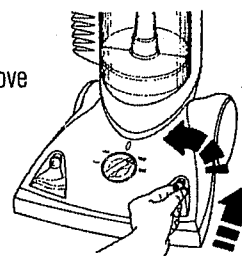

Figure 22
4. Twist the burned out bulb counter-clockwise until it comes free from its Socket. (See Figure 22.)